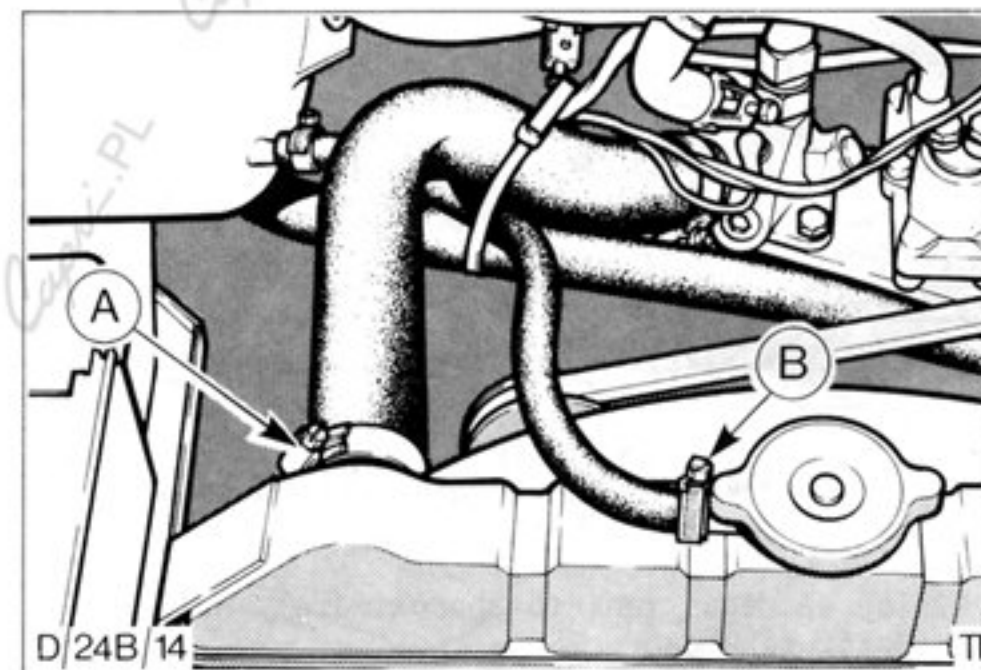

Fig.18. Radiator top hose and tank hose connections.
5. Loosen radiator top hose and degas tank hose retaining clips, Fig.18, and detach hoses.